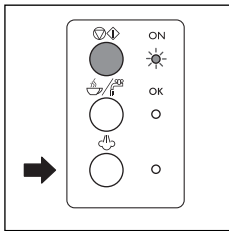

fig. 24
6. When the required temperature is reached, interrupt steam delivery by rotating the steam knob clockwise. Then press the steam button (fig. 24).
1. Discharge a little steam for a few seconds by rotating the steam knob (fig. 24). This empties any milk left inside the steam tube.